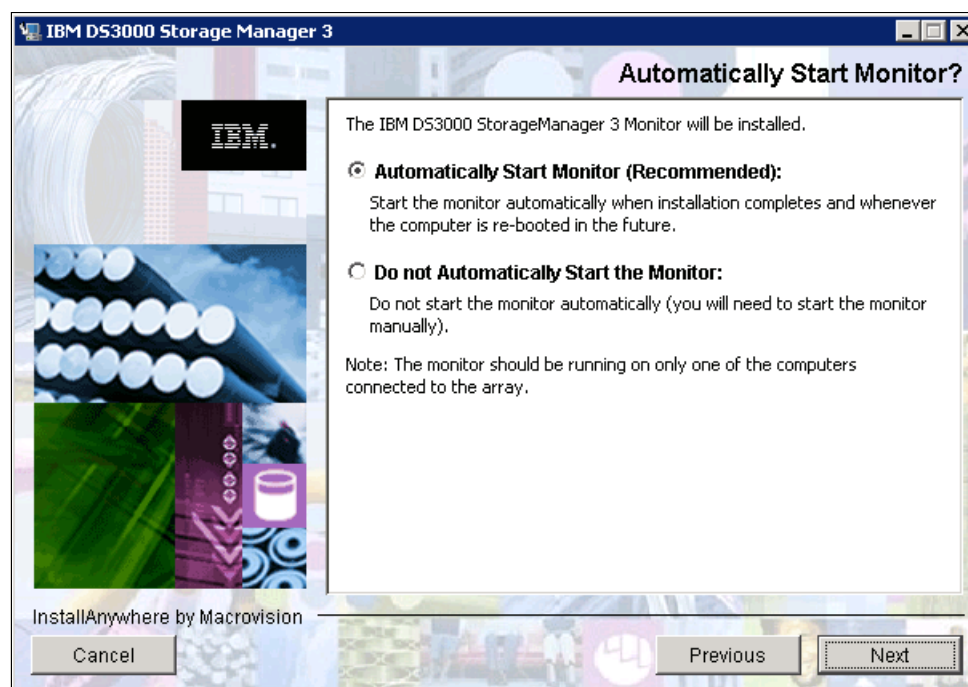

Figure 6-10 Automatically Start Monitor
10. In Figure 6-10, you can select whether to automatically start the Storage Manager Monitor.